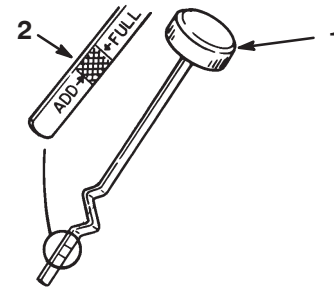

Figure 18
3. Unscrew the oil dipstick and wipe the metal end clean (Fig. 18).